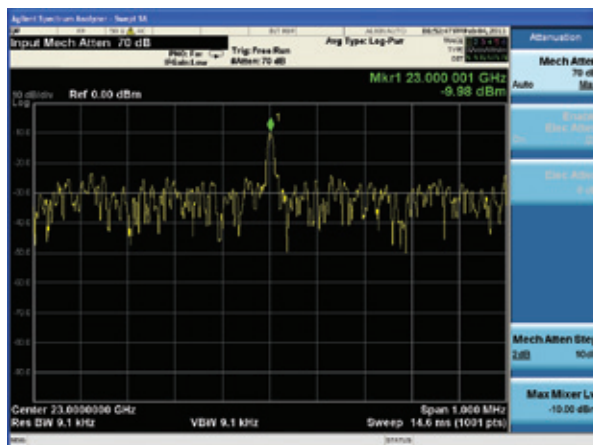
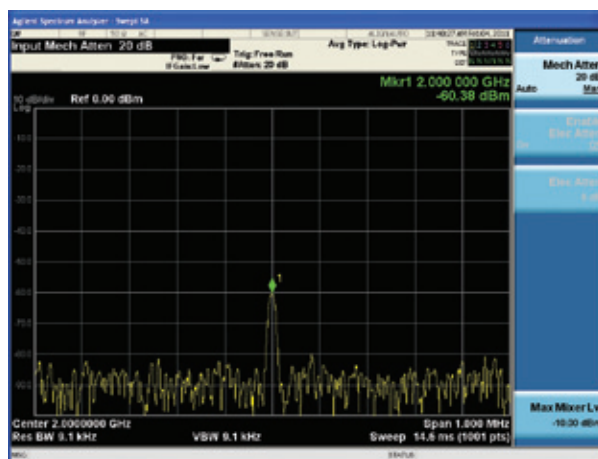

Figure 3
Figure 4
- Select the manual attenuator control, step the attenuation up by the smallest step allowed (2 dBm, 5 dBm, 10 dBm), and watch the peak reading. Continue stepping up the attenuation until the maximum attenuation is reached. The noise floor should come up but the signal should stay within reason (Figure 3). When checking the attenuators, what you don't want to see is the signal moving (Figure 4).